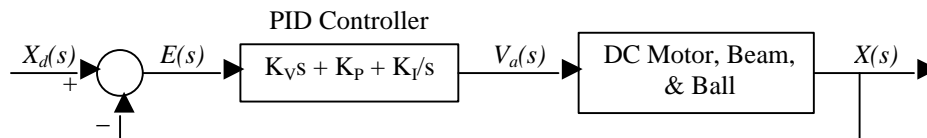

Figure 3: PID Control of Ball Position
3. PID controllers of the type implemented in last week's lab are quite common. Let's investigate the use of a PID ball position controller to place the ball at the desired position $x_d(t)$ along the beam by varying the motor voltage $v_d(t)$. The PID control scheme is shown in figure 3. Note that the error $e(t) = x_d(t) - x(t)$ is the difference between desired ball position and actual ball position.
- a. Determine the transfer function $X(s)/X_d(s)$, in general, for the closed-loop PID controlled system shown in figure 3.